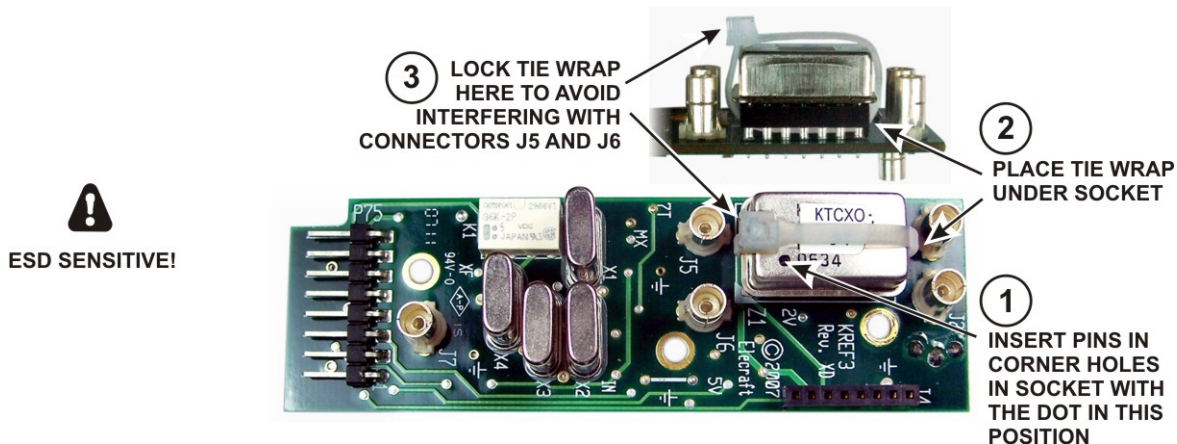

Figure 68. Mounting TCXO Module on KREF3 Board.
□ Mount the TCXO module on the KREF3 board as shown in Figure 68. Be certain the leads go into the corner holes in the socket and the black dot is oriented toward connector J6 as shown. If you have a 1ppm high-stability module, the dot may be light brown and not as close to the corner. If the module has only three leads, the missing lead will be in the corner with the dot. If you have the standard 5ppm TCXO, the bottom may be slightly above the socket when the leads are fully inserted. Tighten the tie wrap enough to ensure the oscillator so it cannot fall out but do not bend the leads.